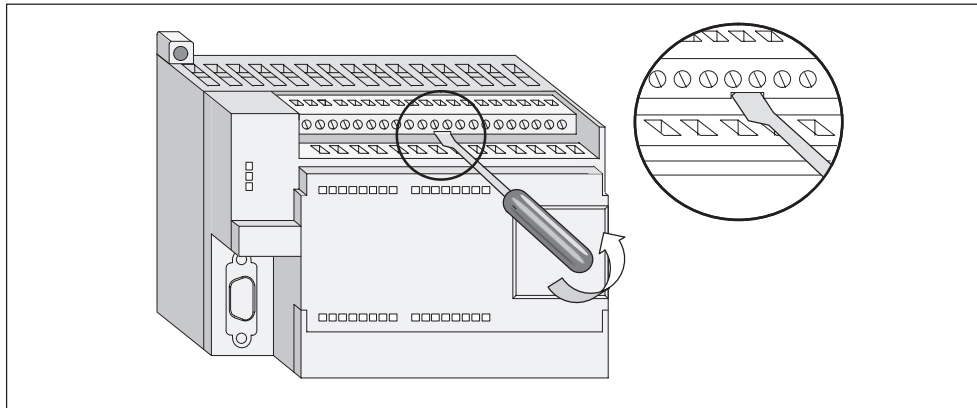

Figure 2-9 Removable Terminal Block Connector for the CPU 224 and I/O Expansion Modules.
The removable terminal block connector (Figure 2-9) allows field wiring connections to remain fixed when you remove and re-install the S7-200 CPU and I/O expansion modules.
2. Insert a screwdriver in the notch in the middle of the terminal block as shown in Figure 2-9.